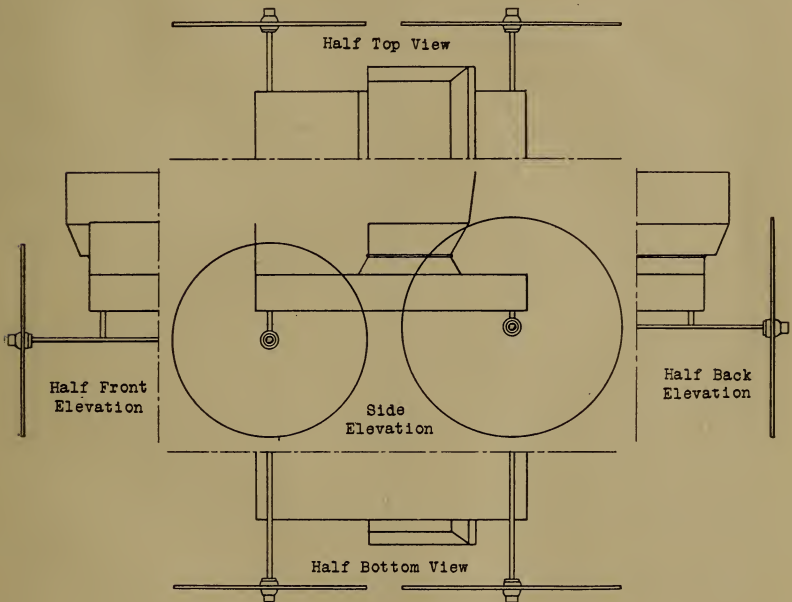

Fig. 15. Arrangement of Views.
3. ARRANGEMENT OF VIEWS. The different views of an object should be located as per Fig. 15.